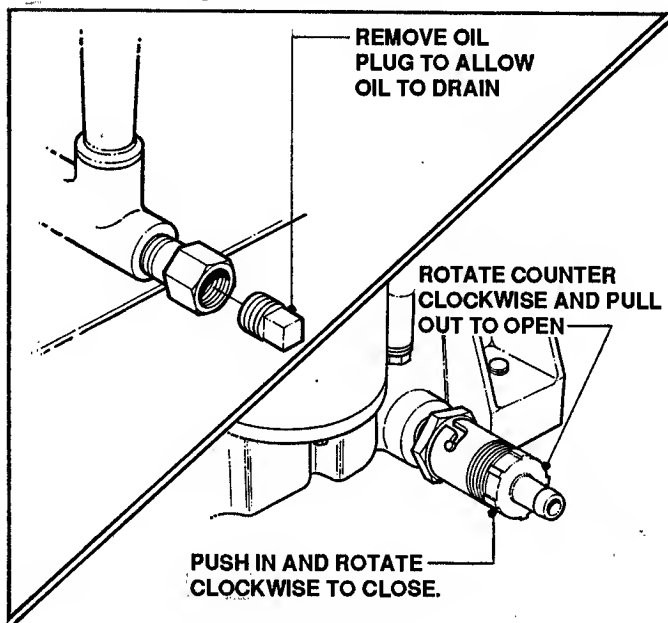

FIGURE 3.1
- (d) Place a 2 quart capacity container under the end of the oil drain. Open oil drain. See figure 3.1 for oil drains used on the Series 14 Rear Engine Riders.
Refer to Figure 3.1, and wipe up any oil that may have spilled.